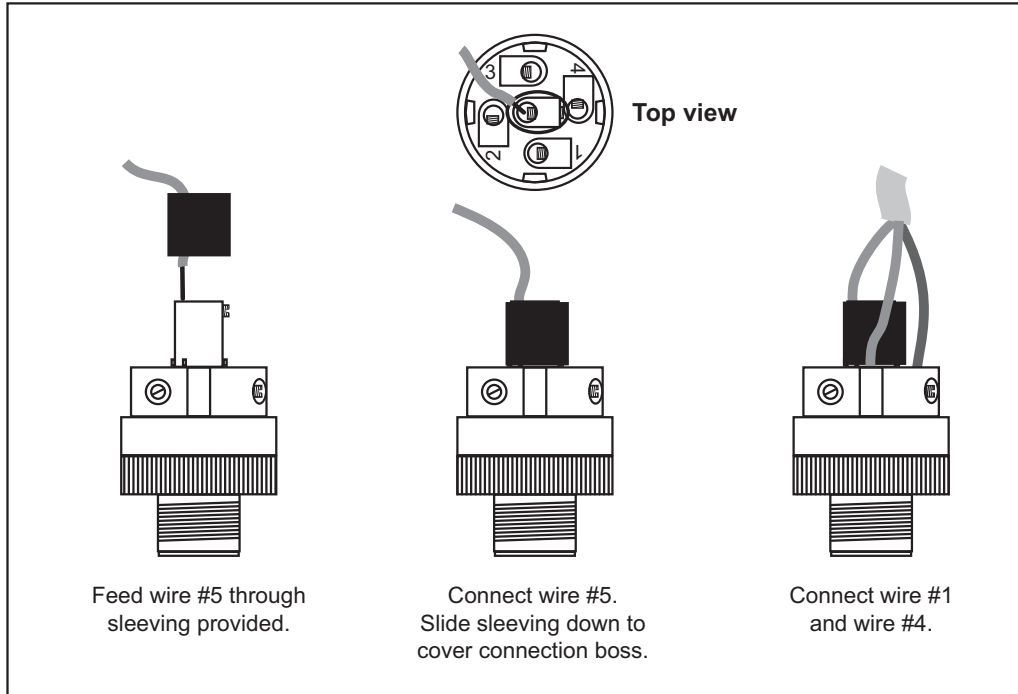

Figure 3-4. HDP Connector Showing Sensor Wires Being Connected to Terminals
4. Connect wire #5 to the center terminal on the HDP connector, first threading it through the sleeving provided, as shown in Figure 3-4, page 3-6:
5. Connect wires #1 and #4 to their assigned terminals (labelled “1” and “4”) on the HDP connector as shown in Figure 3-4 and in Table 3-1, page 3-6.